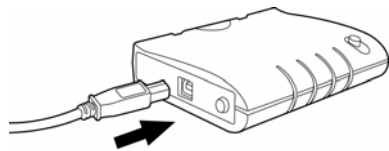

Fig. 2-4
Hardware installation simply involves connecting the Logic Analyzer to your computer with the included USB Cable as shown in Figures 2-4 and 2-5.
4. Plug the square end of the USB cable into the Logic Analyzer (Fig.2-4).